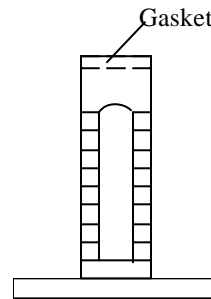
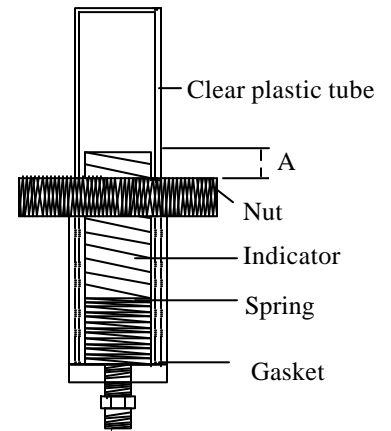

Fig. 3
Fig. 4
6. Remove nut fastening housing (Fig. 3&4) together. Set housing in bracket, place spring in housing (Fig. 4). Next thread chain through spring and through red indicator tube. Have closed end (with chain connector) toward outside of building. This tube should be set with line showing on the tube even with outside of housing (A Fig. 4). This applies if tank is empty.
7. Slide transparent plastic tube over red indicator tube and spring, and press the same end of housing (Fig. 4) over transparent plastic tube. Check to see that reading is correct.
8. If reading is incorrect re-adjust chain. Then cut off chain even with the end of the red indicator tube. Fasten chain connector. Fasten outside housing (Fig. 3) to inside housing (Fig. 4) with nut.